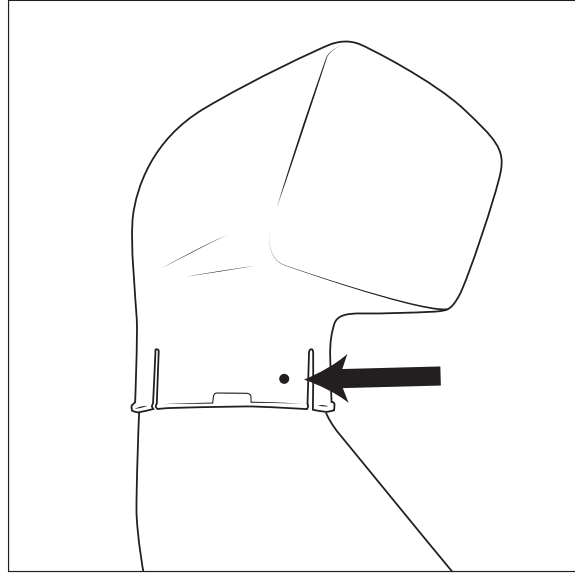

Figure 14
3. Mark the hole location on the Snorkel Body and drill a 5/16" hole (fig. 14).